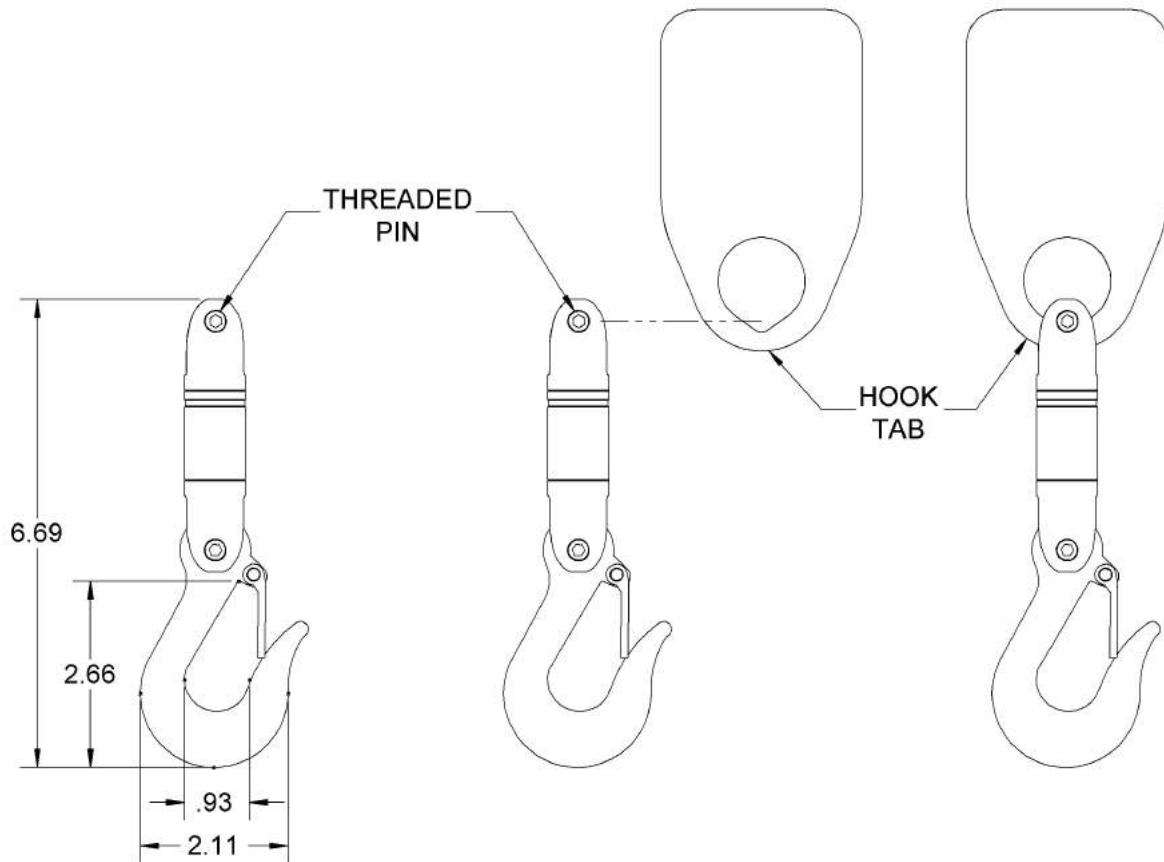

FIG. 5.1
- 5.1. The swivel hook (FIG 5.1) is an option that is sold separately.
- 5.3. Slide the swivel hook over the hook tab (FIG. 4.1, FIG. 4.6, and FIG. 5.1).